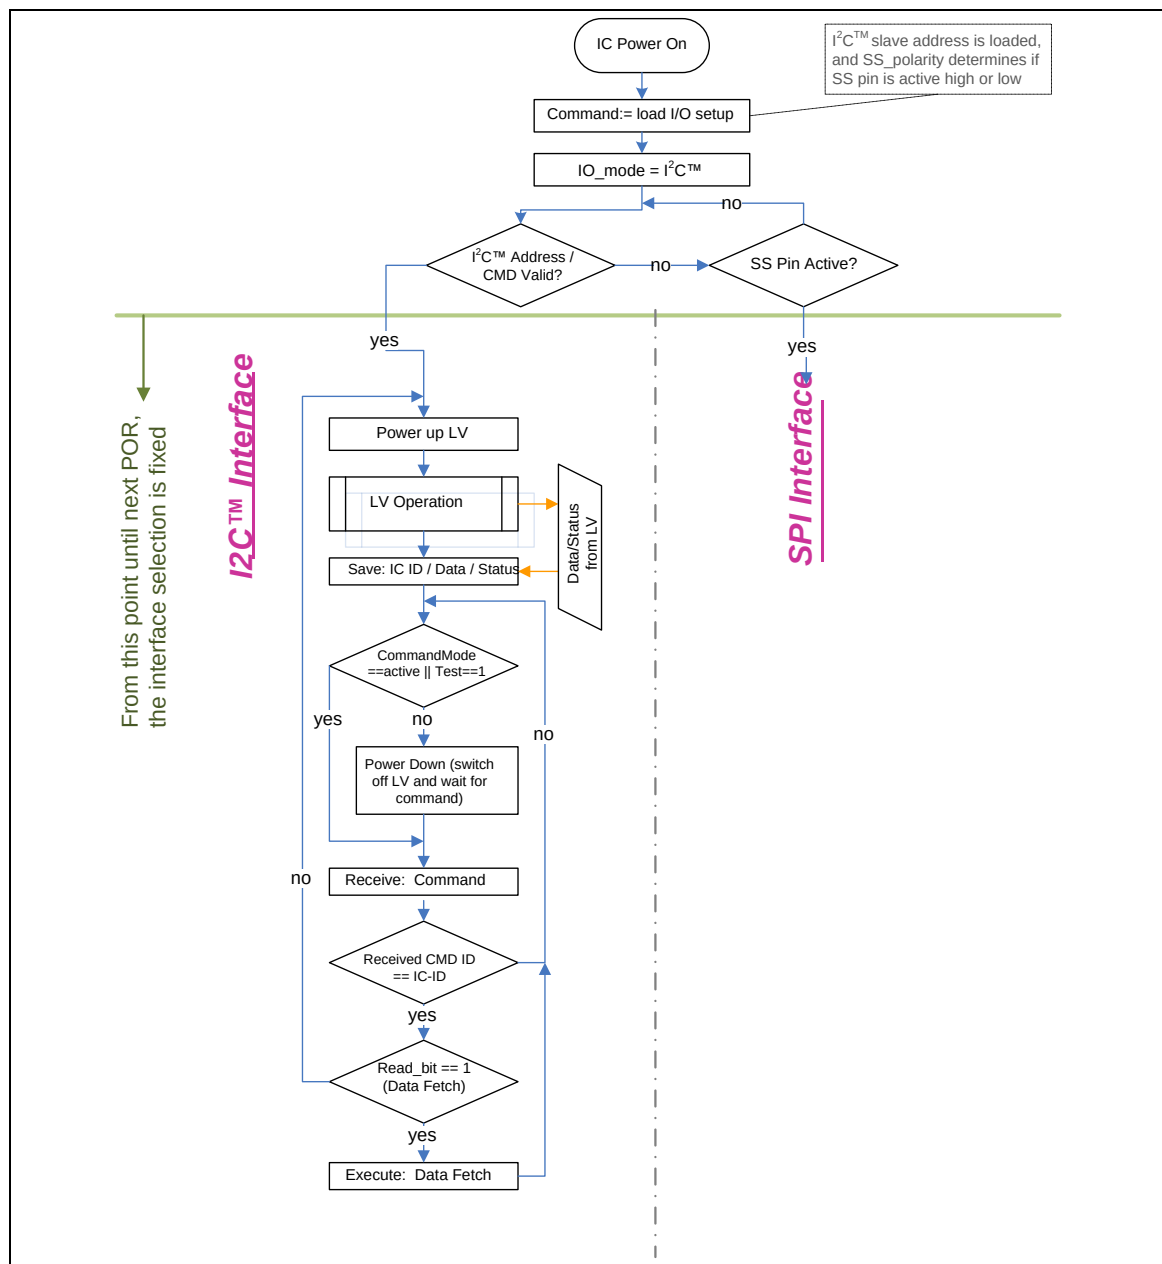

Figure 3 Operational Flow Chart: Power Up
Figure 3 illustrates the BM43TND80AA-T2 power-up sequence and subsequent operation depending on the selected interface communication mode as determined by interface-related first activities after power-up or reset. If the first command after power-up is a valid I²CTM command, the interface will function as an I²CTM interface until the next power-on-reset. If there is no valid I²CTM command, but an active signal at the SS pin is detected as the first valid activity, then the interface will respond as an SPI slave. With either interface, after the voltage regulators are switched on, the BM43TND80AA-T2’s low-voltage section (LV) is active while the related interface configuration information is read from memory. Then the LV section is switched off, the BM43TND80AA-T2 goes into Sleep State, and the interface is ready to receive commands. The interface is always powered by V_{DD}, so it is referred to as the high voltage section (HV).